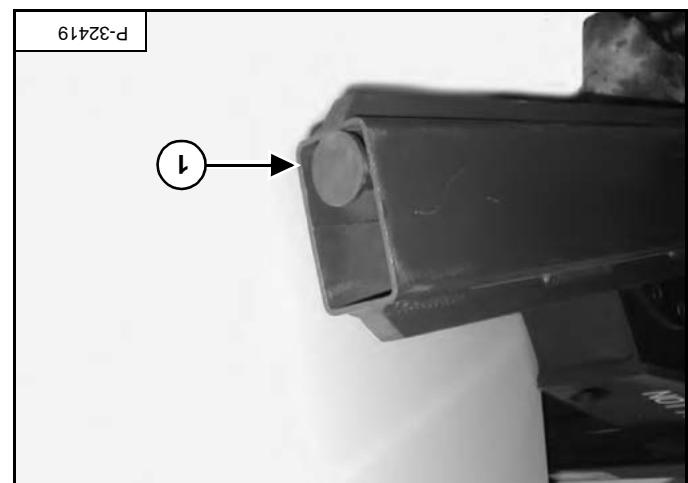
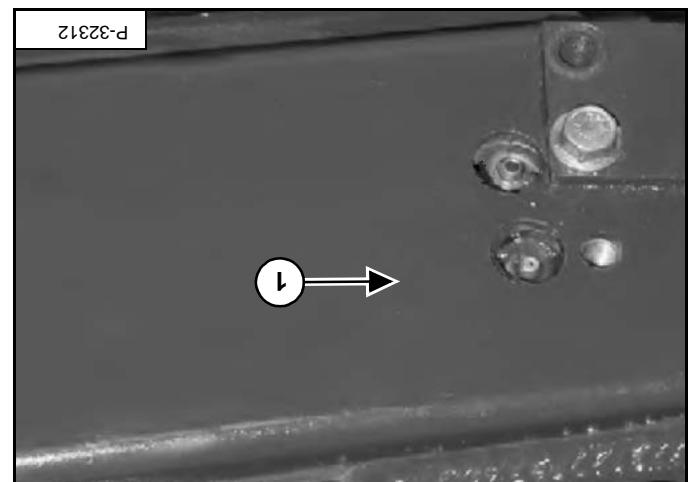

Figure OI-6
Figure OI-5
Apply grease to the grease fitting (item 1) [Figure OI-5] until the end of the grease cylinder (item 1) [Figure OI-6] is in the position shown.